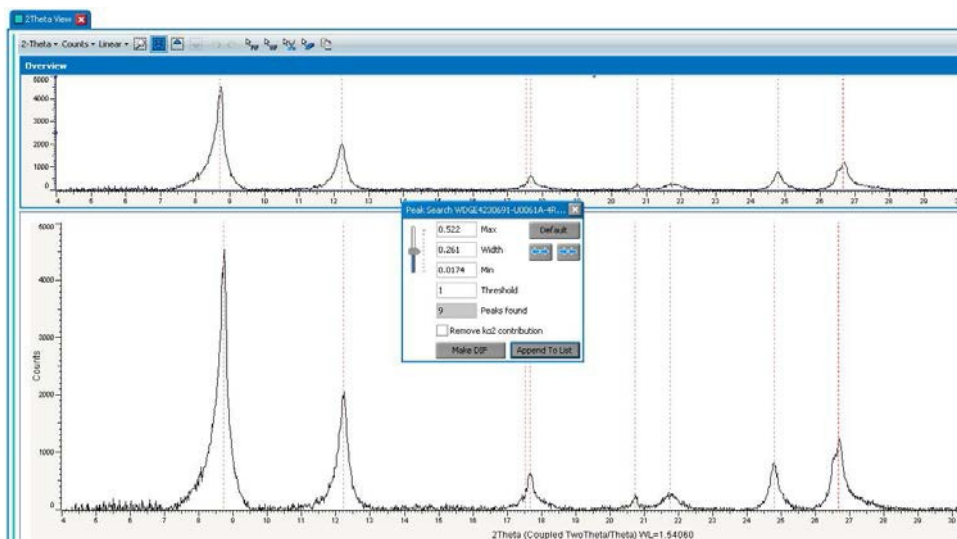

Figure 9. Peak Search.
3. Move the slider to select the peaks you desire (*Figure 9*).